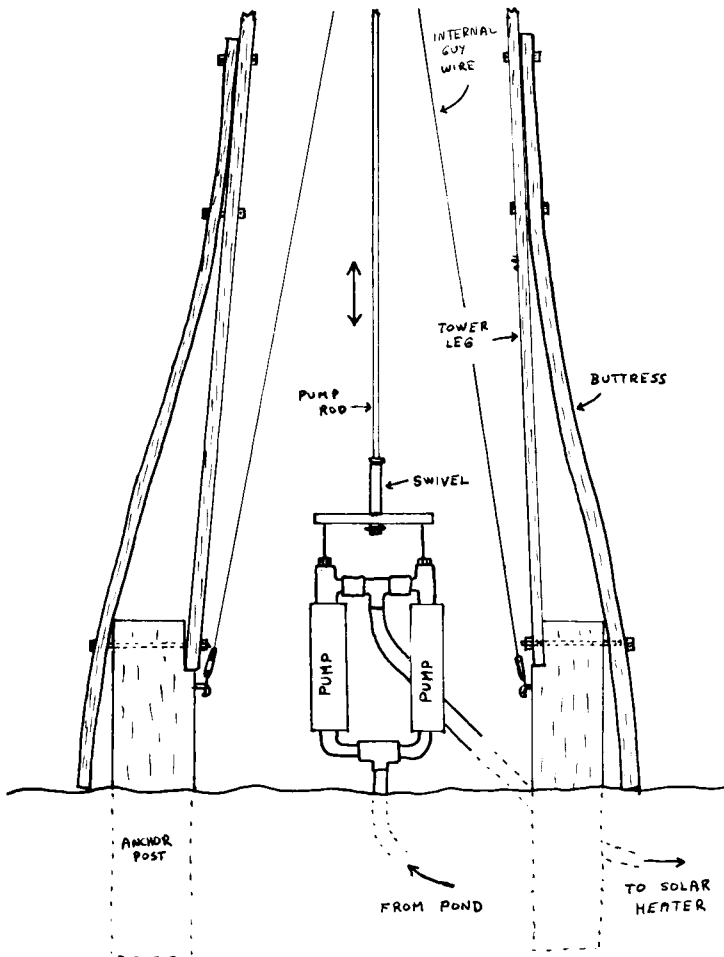
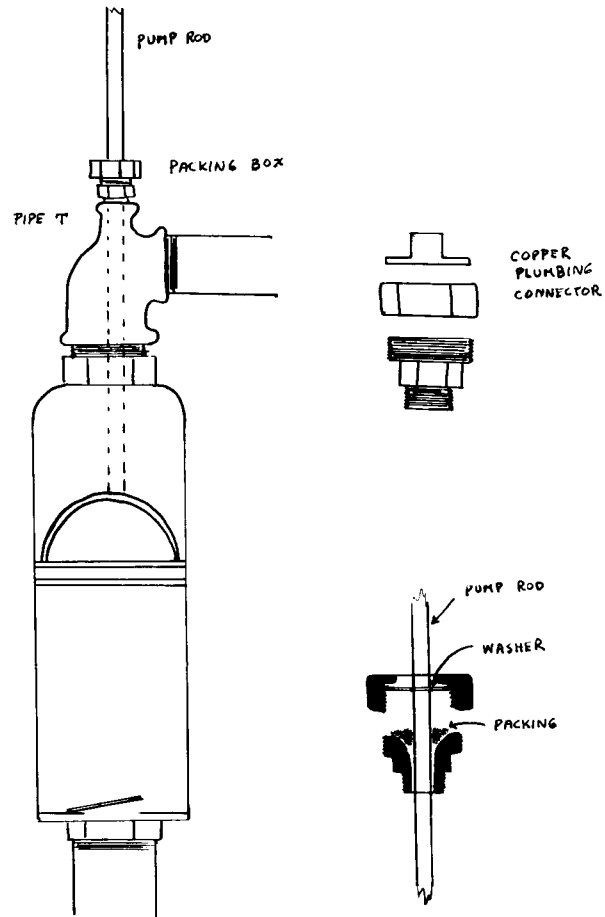
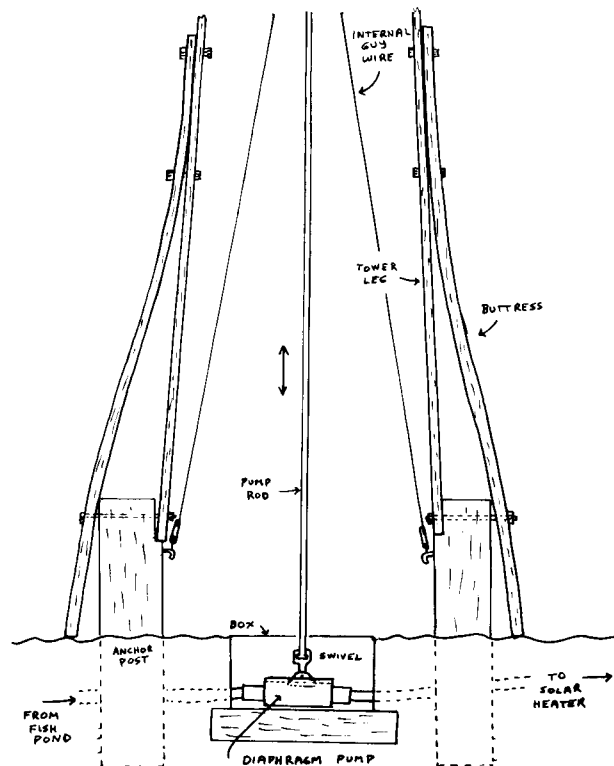

Figure 4
Figure 5
Figure 6
The sail-wing windmill which we used for circulating water in the mini-ark in 1974 was strong enough to use two three-inch diameter piston pumps simultaneously. Figure 4 shows how the two pumps were connected by a swivel to the pump rod. The cast iron pumps were inexpensive. The packing boxes on each were fabricated from plumbing supplies (Fig. 5) (3). The double pumps were undersized for the strength of the windmill, however, and were replaced later by a higher capacity, more compact diaphragm pump which could be placed below ground (Fig. 6) (4). Figure 6 shows the buttresses on each leg of the windmill tower. It was felt prudent to strengthen the tower in order to give adequate support to the additional weight of the crankshaft, extension, cables and other hardware that were added subsequent to the original design.